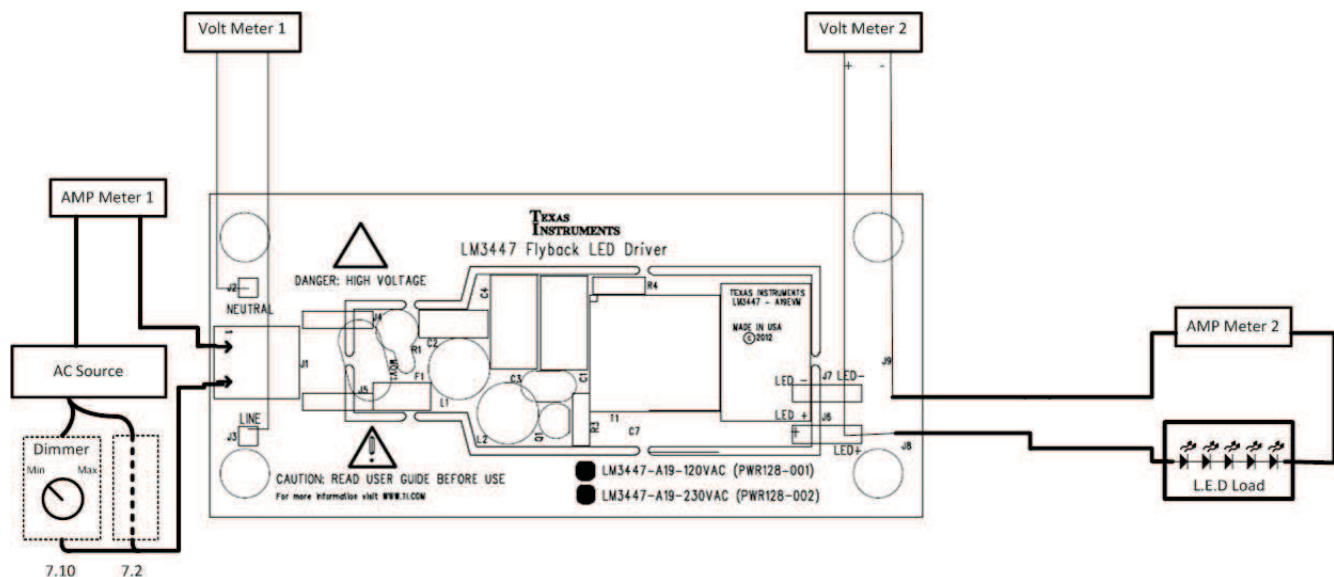

Figure 2. LM3447-A19-120VEVM Recommended Test Set Up
1. Connect EVM per Figure 2 above. An external LED load must be used to start up the EVM.
3. Connect scope probe to EVM per Figure 2 above to bridge rectifier output.